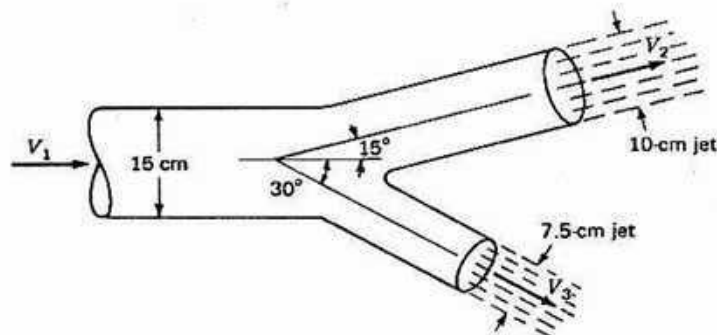

Figure 2
3. (a) Determine the magnitude and direction of the resultant force exerted on the double nozzle as shown in figure 2. Both nozzle jets have a velocity of  $12 \text{ m/s}$ . The axis of the pipe and both nozzles lie in a horizontal plane,  $\gamma = 9.81 \text{ kN/m}^3$ . Neglect friction. 20